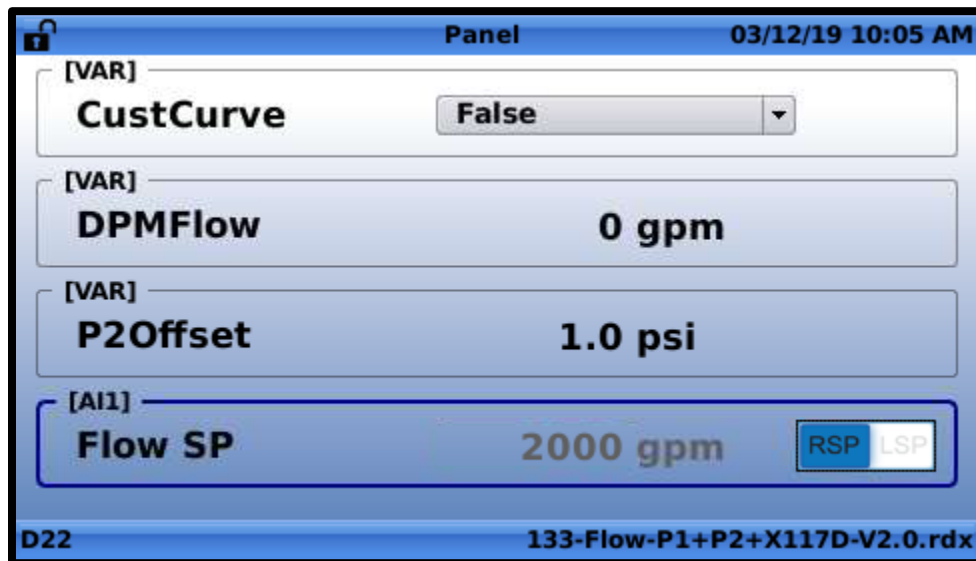

Figure 8.5
- Use the left and right navigation buttons to highlight the "RSP/LSP" graphic as shown in **FIGURE 8.5**.